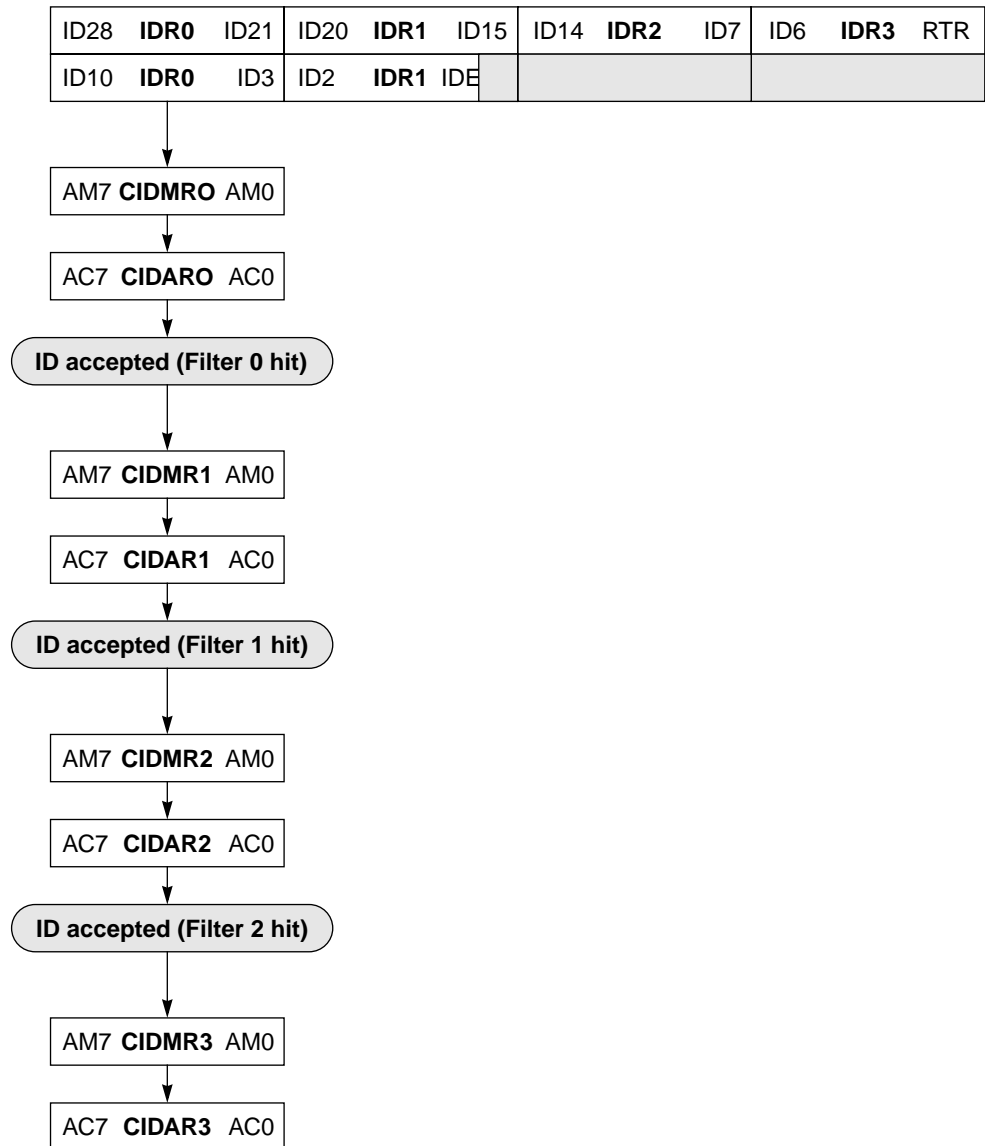

Figure 47 8-bit Maskable Acceptance Filters
- Eight identifier acceptance filters, each to be applied to the first 8 bits of the identifier. This mode implements eight independent filters for the first 8 bits of a CAN 2.0A/B compliant standard identifier or of a CAN 2.0B compliant extended identifier. Figure 47 shows how the first 32-bit filter bank (CIDAR0–3, CIDMR0–3) produces filter 0 to 3 hits. Similarly, the second filter bank (CIDAR4–7, CIDMR4–7) produces filter 4 to 7 hits.